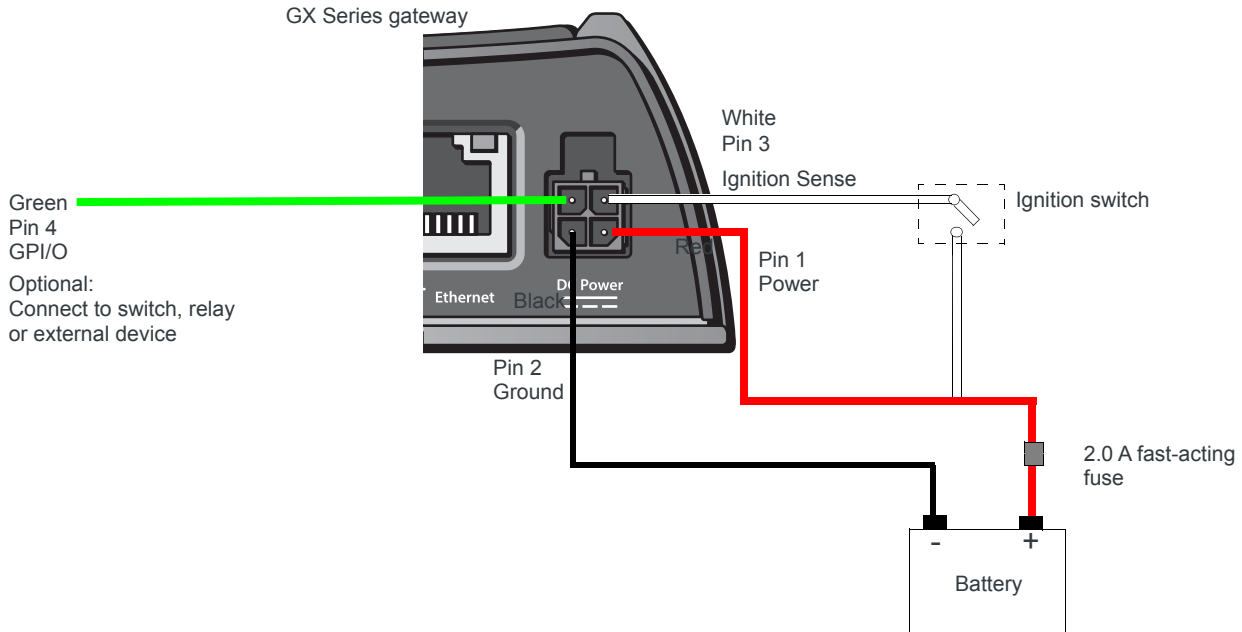

Figure 2-20: DC power cable connections (Colors indicate DC cable wire colors.)
For DC installations, Sierra Wireless recommends fusing the power input using a 2.0 A fast-acting fuse. Install the fuse on the positive line, as shown in Figure 2-20 on page 38. For vehicle installations, use an automotive fuse.
*Note: Sierra Wireless strongly recommends that you use an unswitched VCC, with Pin 3 (white wire on DC cable) connected to the ignition (if you want the GX on when the ignition is on) or connected to a low voltage monitor (if you want the GX to turn off when the voltage drops below a defined level) See Figure 2-20 on page 38. This is particularly important for when the input power supply is not constant, such as vehicle installations.*
See Figure 2-20 and Table 2-4.